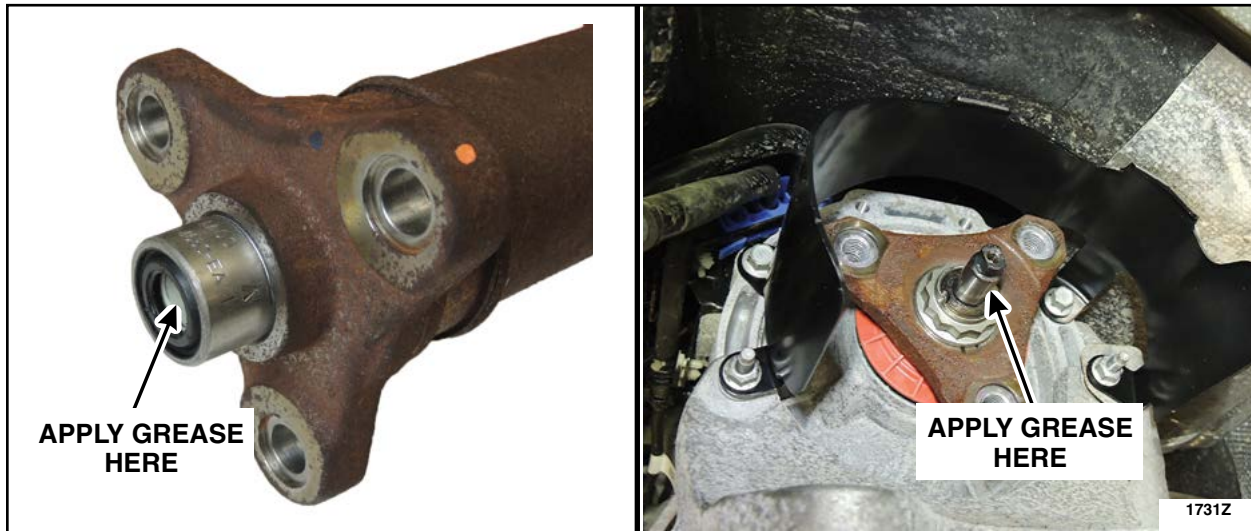

FIGURE 9
8. Lubricate the transmission output shaft and driveshaft bushing using a small amount of Motorcraft® XG-1-E1 Premium Long Life Grease or equivalent. See Figure 9.